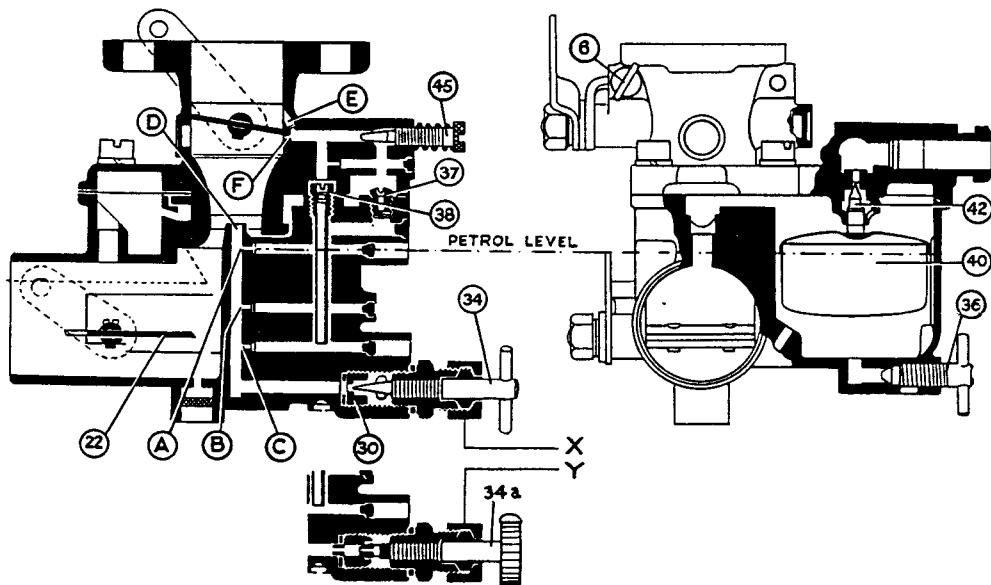

FIG. 18
**General Description. Fig. 18.**
This should be carried out when the engine is hot, the minimum running speed usually being set at 400 — 450 r.p.m. A spring-loaded adjusting screw (6), Fig. 18, is provided close to the throttle lever by means of which the exact throttle opening can be adjusted for idling. It should be turned clockwise to increase the idle speed and vice versa. The slow running mixture screw (45) will provide a richer mixture if turned in a clockwise direction. If, however, there is evidence of rich running, i.e. black smoke from the exhaust or hunting, this screw should be gradually turned in an anti-clockwise direction until the engine runs cleanly and evenly. The usual setting is about one complete turn open from the fully closed position.
## **Standard Type Adjustable Main Jet (Fig. 18 detail X).**
## **Min. Max. Adjustable Main Jet (Fig. 18 detail Y).**
Push inter-connection tube (20) into its seating in choke lever and adjust so that with a slight pre-load on the throttle lever (10) tending to keep the throttle in closed position, closing movement of the choke lever (25) will slide tube up rod to "kink" and open throttle just sufficiently to uncover progression orifice (see Fig. 18, item F).